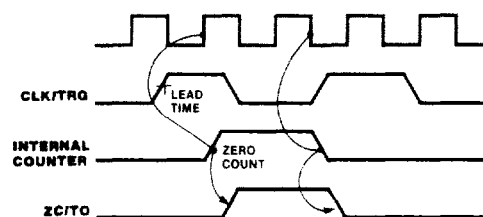

Figure 12. Counter Mode Timing
**Counter Operation.** In the counter mode, the CLK/TRG pulse input decrements the downcounter. The trigger is asynchronous, but the count is synchronized with CLK. For the decrement to occur on the next rising edge of CLK, the trigger edge must precede CLK by a minimum lead time as shown in Figure 12. If the lead time is less than specified, the count is delayed by one clock cycle. The trigger pulse must have a minimum width, and the trigger period must be at least twice the clock period. If the trigger repetition rate is faster than  $1/3$  the clock frequency, then  $T_{SCTR}(Cs)$ , AC Characteristics Specification 26, must be met.